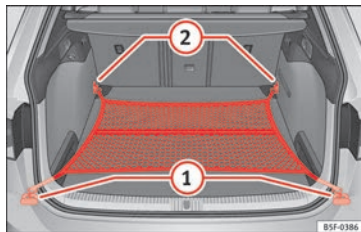

Fig. 181 In the luggage compartment: net bag hooked up at floor level (LEON ST model).
- As applicable, lift the front fastening rings » **Fig. 181** (2).
- Secure the net hooks to the fastening rings (2) » ⚠. The bag zip should be facing upwards.
- Secure the net hooks to the fastening rings (1).